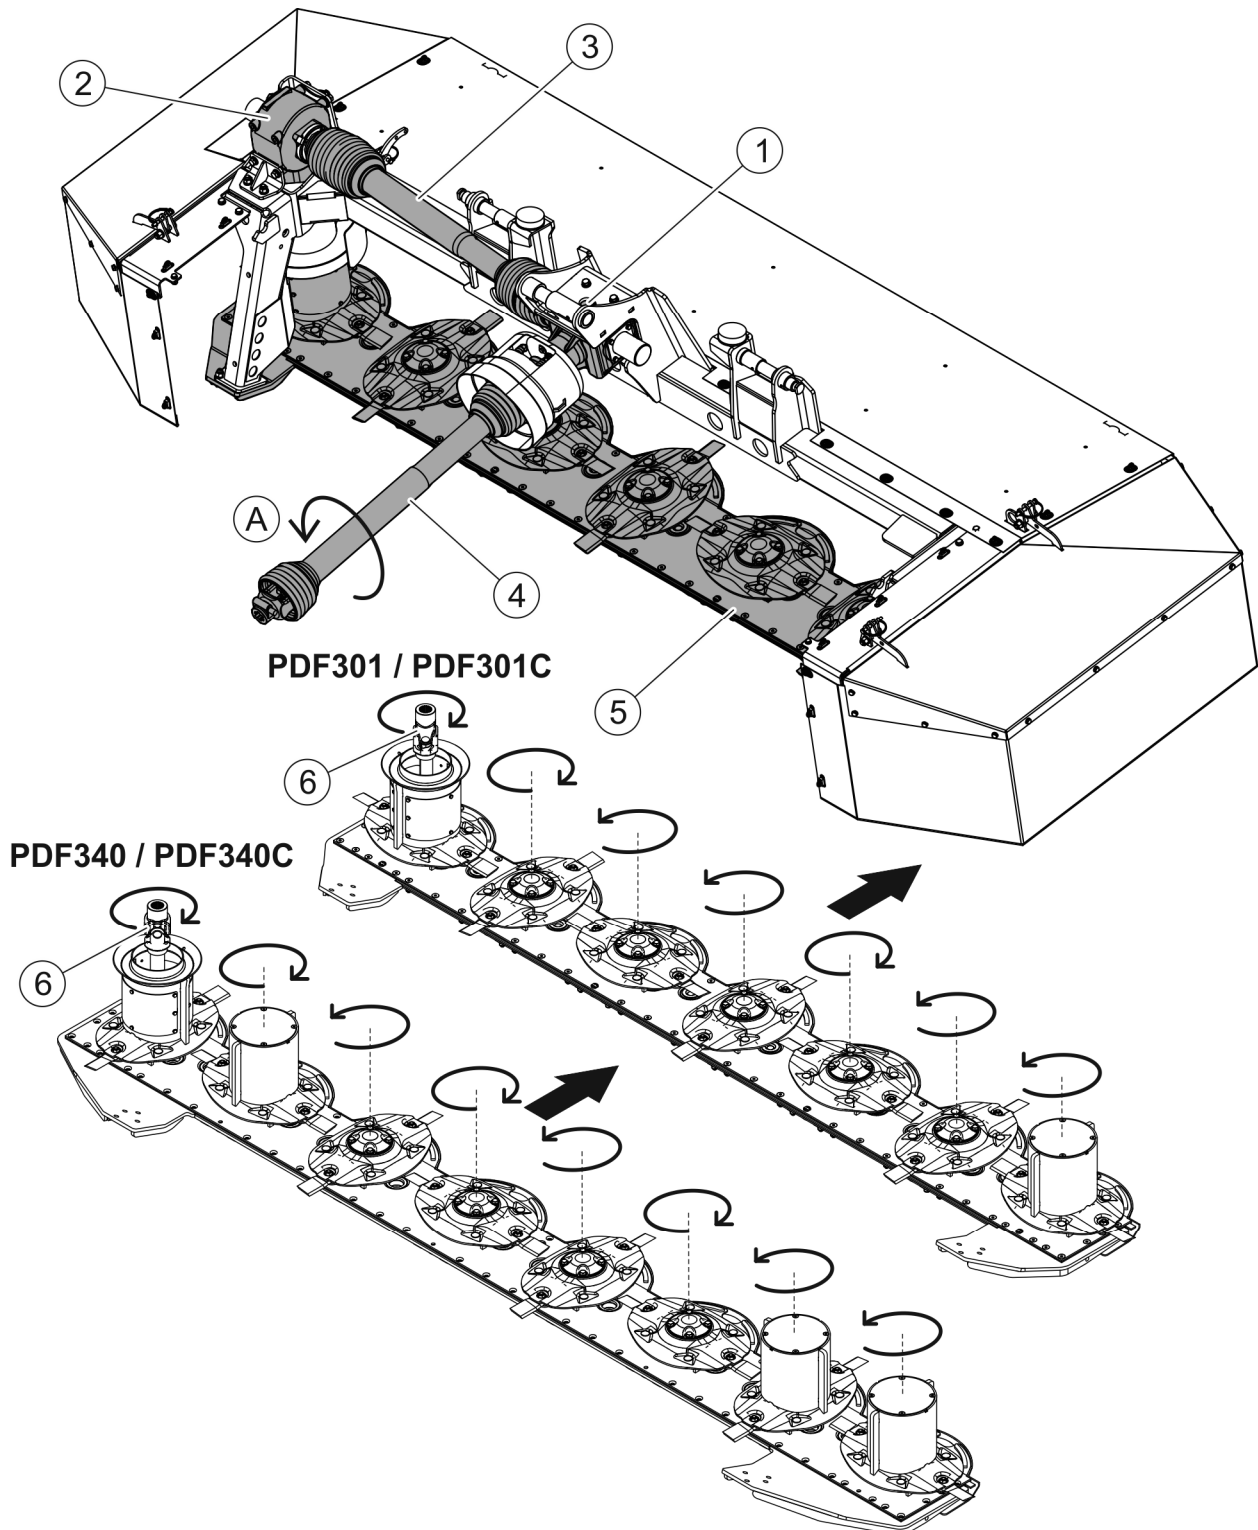

FIGURE 3.4 Drive transmission
(1) mower central transmission, (2) cutter bar drive transmission, (3) PTO shaft, (4) PTO shaft for connection with tractor (5) cutter bar, (6) double articulated joint
The PDF301 / PDF301C / PDF340 / PDF340C mower is designed to work with PTO speed 1000 rpm and it is suitable for connection to tractors with PTO shaft revs (A) (FIGURE 3.4) turning clockwise when seen from front of tractor. To connect the machine to a tractor with PTO turning in the other direction, disassemble and turn the mower's central transmission (1) by 180° - see SECTION 4.3 *"HITCHING TO TRACTOR"* and replace the PTO shaft for the shaft adapted to counter-clockwise rotation.